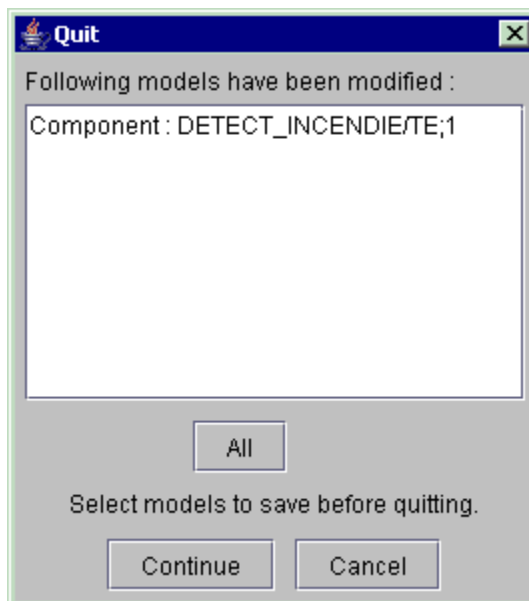

Figure 213 : Saving of modified model (s)
- ♦ If one (or several) model(s) has (have) been modified, the following window is displayed (Figure 213):